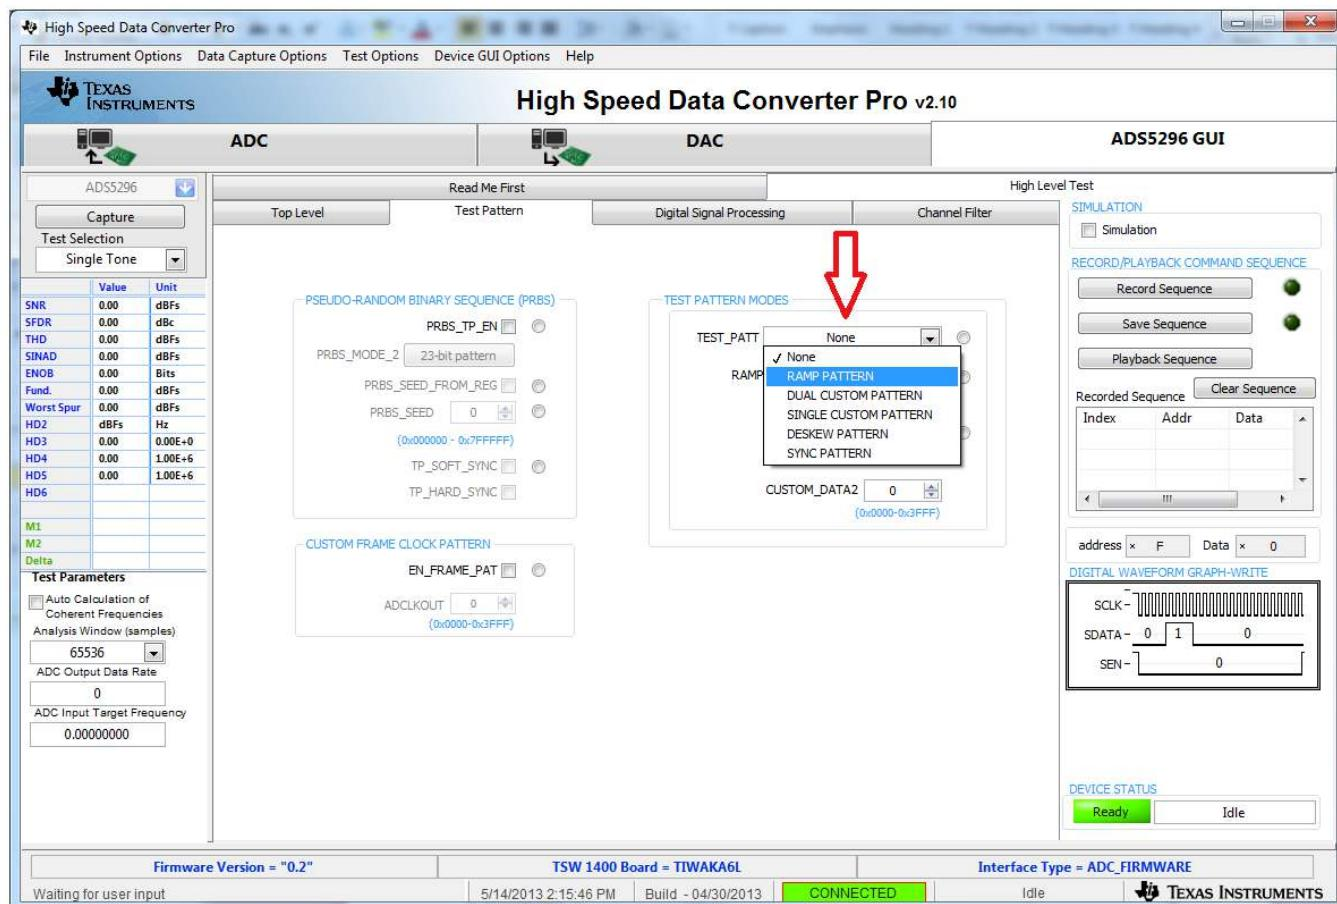

Figure 31. ADS5296 GUI Setup for RAMP Test
- Press on the sub-tab labeled **Test Pattern** and select **RAMP PATTERN** within the **TEST_PATT** menu as shown in Figure 31.